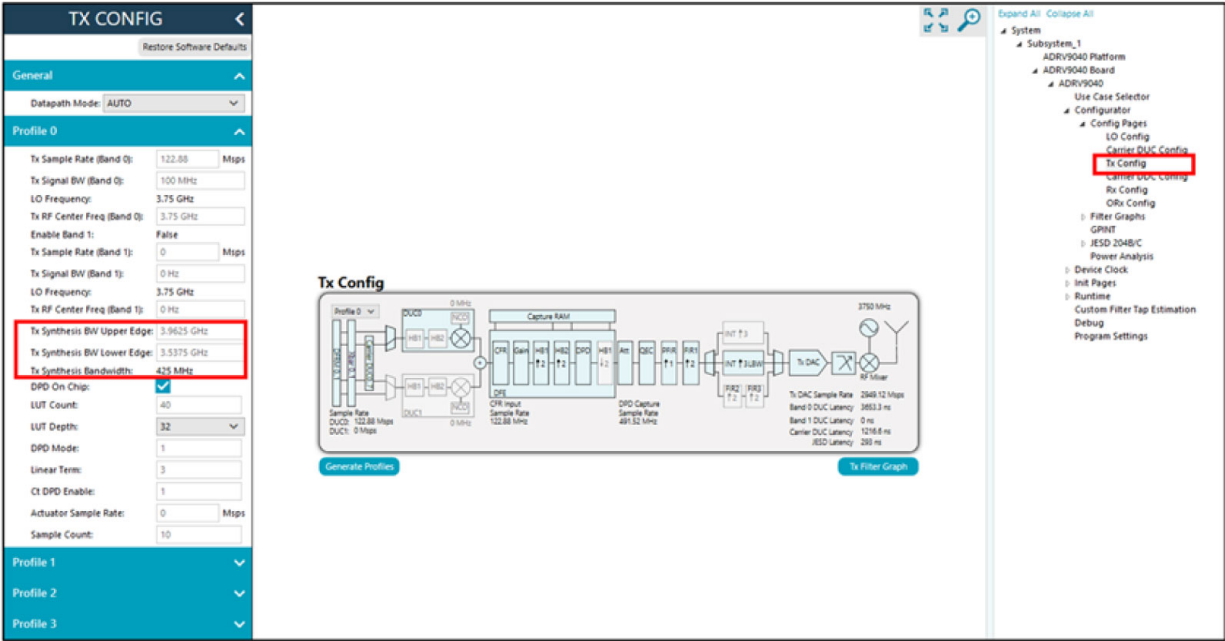

Figure 17. Tx Config Page
- Update Tx Synthesis BW Upper Edge and Tx Synthesis BW Lower Edge from the Tx Config as shown in Figure 17.